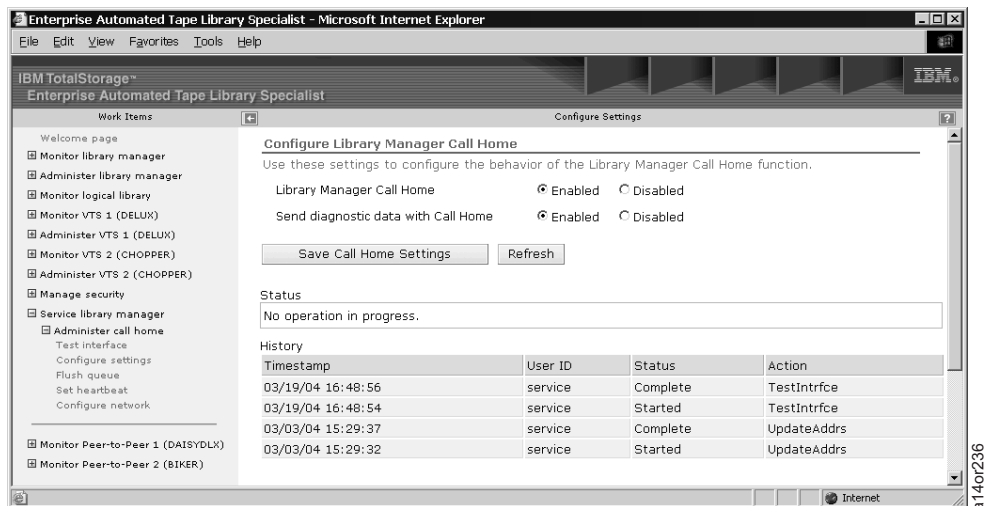

Figure 2-36. 3494 ATL Web Specialist - Configure Settings
- From the "Administer call home" list on the Web Specialist screen (Figure 2-34 on page 2-28), click **Configure settings** to see Figure 2-36. If you are prompted for a userid and password, use the default values of **service** for the userid and **service** for the password. These values can be changed by the 3494 ATL system administrator.